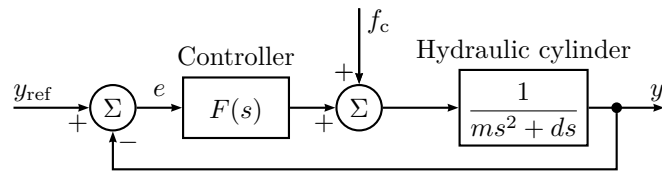

Figure 3.3a
3.3 Figure 3.3a shows the block diagram for a hydraulic servo system in an automatic lathe (Swedish: *svarv*). The output signal $y(t)$ represents the position of the lathe tool (Swedish: *svarvstål*), $y_{\text{ref}}(t)$ is the desired position of the lathe tool, m is the mass of the tool slide (Swedish: *verktygsslid*) and the hydraulic piston (Swedish: *kolv*), d is the viscous damping of the tool slide, $F(s)$ is the transfer function for the controller, f_c is the cutting power.